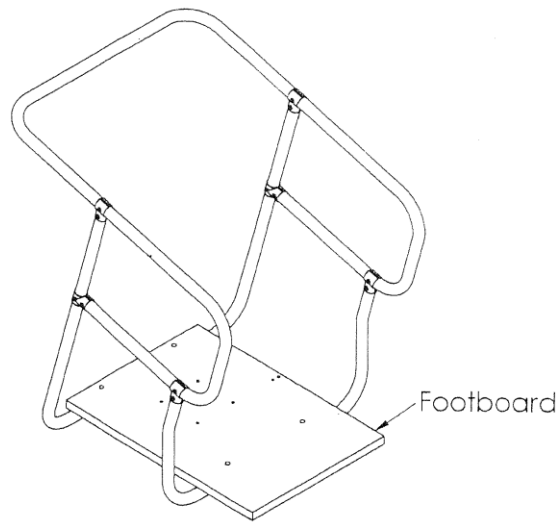

Figure 4
Step 3: Attach the footboard to the upper frame assembly using four 3/8"x4 1/2" button head bolts, nylon spacers, 3/8" flat washer, 3/8" lock washer, and 3/8" acorn nuts as shown in figure 4.